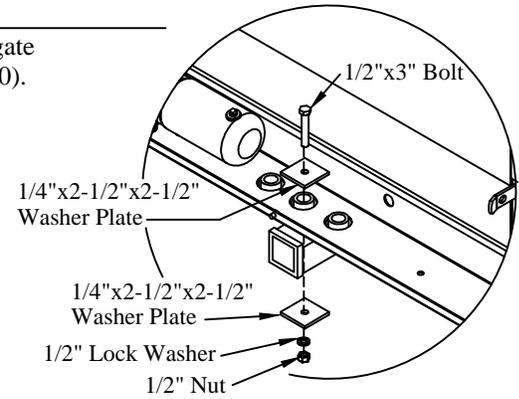

Figure 20: Lower bracket support (Class 4 hitch).
- 1. Assemble** the supplied hardware through the center hole in the bottom of the liftgate mainframe and the center hole in the factory hitch plate on the truck (Figure 20).